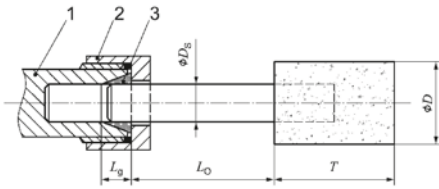

Fig. 1: Clamping length of chuck and collet
- Bear in mind that the maximum speed for small grinding wheels must be lowered due to the greater length of the shaft between the chuck end and the small grinding wheel (overhang). Compliance with the minimum clamping length of 10 mm must be ensured. (See Figure 1 and the recommendations of the manufacturer of small diameter wheels.)